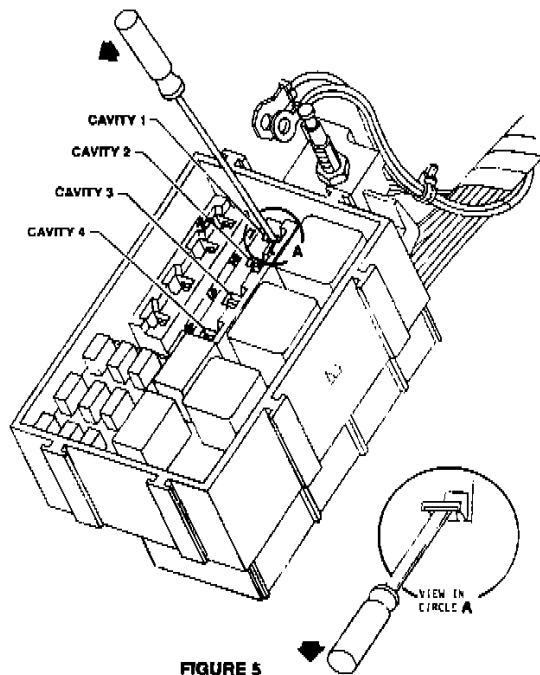

FIGURE 5
11. Use a small flat blade screwdriver to release the four terminals securing the two bussbars in electrical center (see Figure 5) Pull bussbar out the bottom.